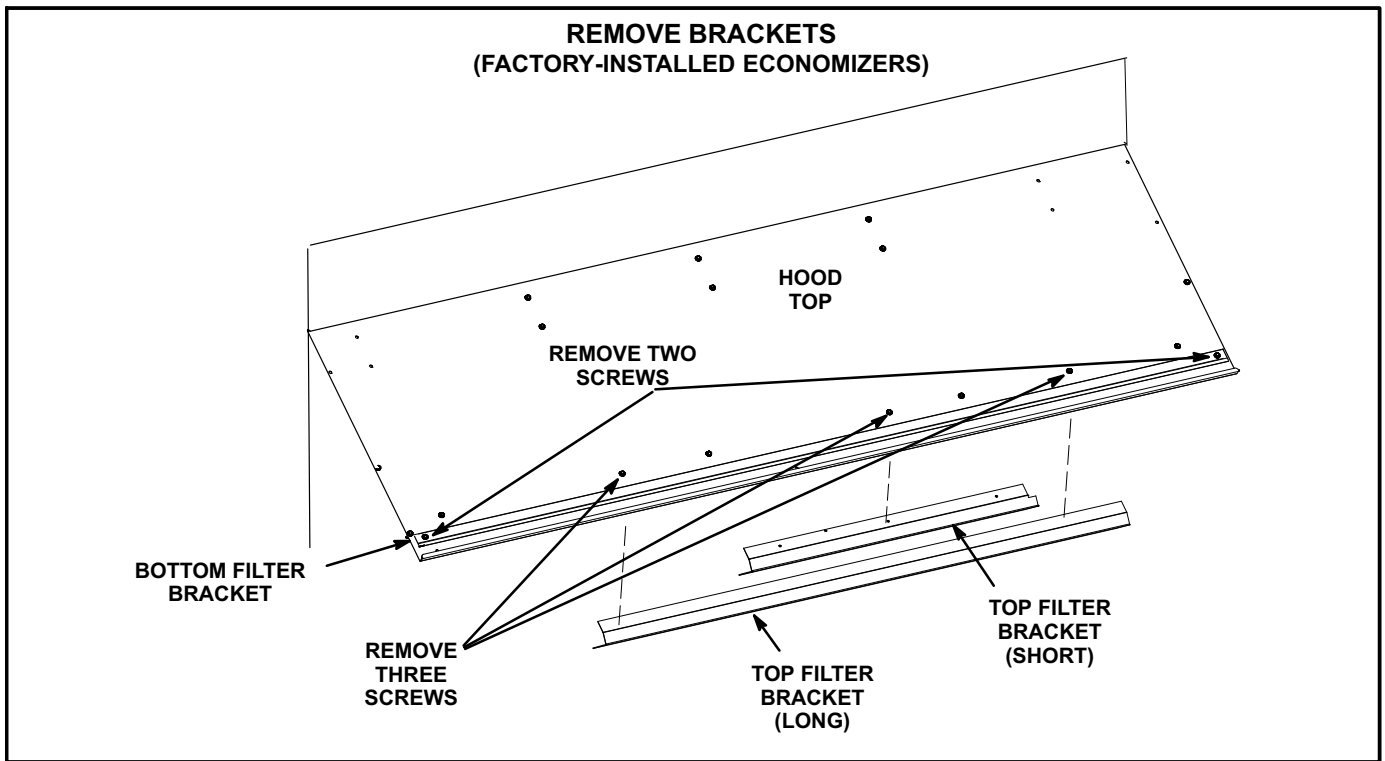

FIGURE 15
- 11- *Factory-Installed Economizers* - Remove the bottom filter bracket from the hood top assembly panel. See figure 15.
- 12- *Factory-Installed Economizers* - Remove the short and long top filter brackets from the hood top assembly panel. See figure 15.